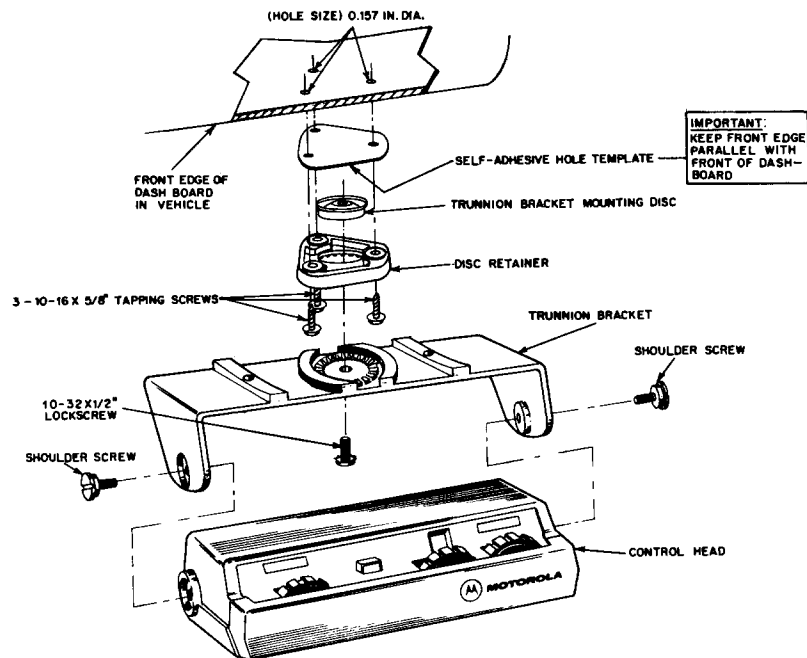

Figure 2.
(1) Determine the location for mounting the control head. The control head should be positioned within easy reach of the operator.
(2) Remove the trunnion bracket and retainer assembly from the control head by removing the two trunnion side screws (see Figure 2).